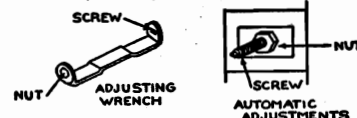

Fig. 4
- Press the No. 1 button and tune in the same station on the adjacent automatic adjustments by using the special wrench furnished with the receiver. (See Fig. 4.) First, adjust the screw and then the hexagonal nut to the setting which gives the loudest and clearest reception on the desired station. Repeat the operation for greatest accuracy.